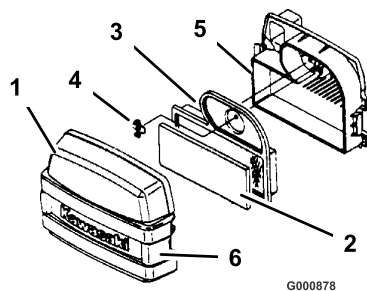

Figure 32
4. Clean around the air cleaner to prevent dirt from getting into the engine and causing damage. Unlatch the two side latches and remove the air cleaner cover (Figure 32).
5. Carefully remove the foam element from the paper element (Figure 32).
6. Unscrew the wing nut and remove the paper element (Figure 32).
1. Carefully slide the foam element onto the paper air cleaner element (Figure 32).
2. Place the air cleaner assembly onto the air cleaner base and install the wing nut (Figure 32).
3. Install the air cleaner cover and secure the latches (Figure 32).